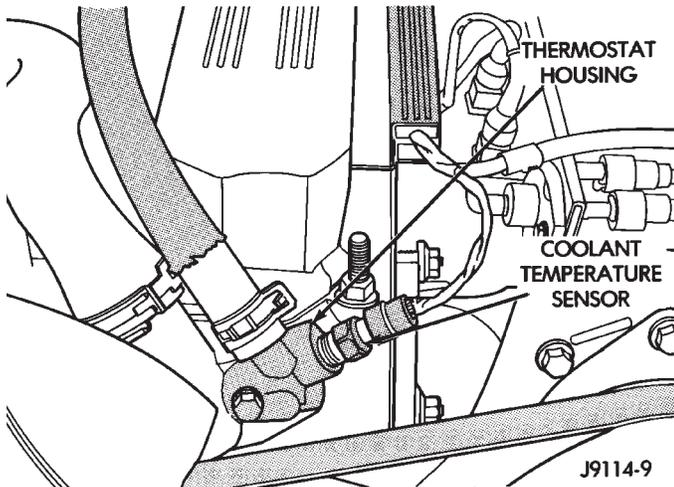

Fig. 12 Coolant Temperature Sensor—Typical
The sensor is installed in the thermostat housing (Fig. 12).
(1) Disconnect wire harness connector from sensor (Fig. 12).